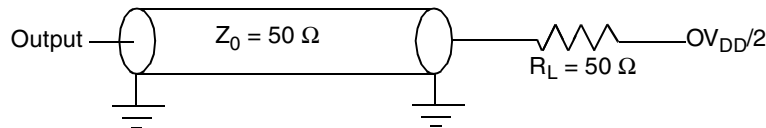

Figure 30. AC Test Load for the JTAG Interface
1. All outputs are measured from the midpoint voltage of the falling/rising edge of t_{TCLK} to the midpoint of the signal in question. The output timings are measured at the pins. All output timings assume a purely resistive 50- Ω load (see Figure 30). Time-of-flight delays must be added for trace lengths, vias, and connectors in the system.
2. The symbols used for timing specifications herein follow the pattern of $t_{(first\ two\ letters\ of\ functional\ block)(signal)(state)\ (reference)(state)}$ for inputs and $t_{(first\ two\ letters\ of\ functional\ block)(reference)(state)(signal)(state)}$ for outputs. For example, t_{JTDVXH} symbolizes JTAG device timing (JT) with respect to the time data input signals (D) reaching the valid state (V) relative to the t_{JTG} clock reference (K) going to the high (H) state or setup time. Also, t_{JTDXKH} symbolizes JTAG timing (JT) with respect to the time data input signals (D) went invalid (X) relative to the t_{JTG} clock reference (K) going to the high (H) state. Note that, in general, the clock reference symbol representation is based on three letters representing the clock of a particular functional. For rise and fall times, the latter convention is used with the appropriate letter: R (rise) or F (fall).
Figure 30 provides the AC test load for TDO and the boundary-scan outputs.